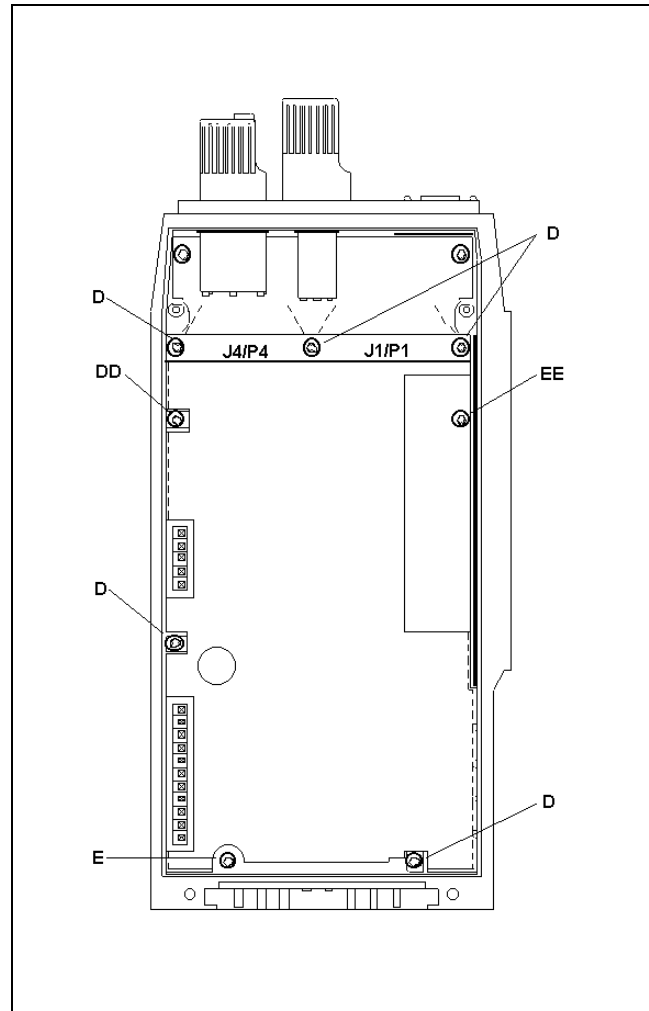

Figure 8 - Control Board Access
To gain partial access to the Control Board, remove the five (5) screws (**D**) securing the shield and board. An earlier Front Cover Assembly has an additional screw located just below connectors J4/P4 (**DD**). See Figure 8. Remove the shield.